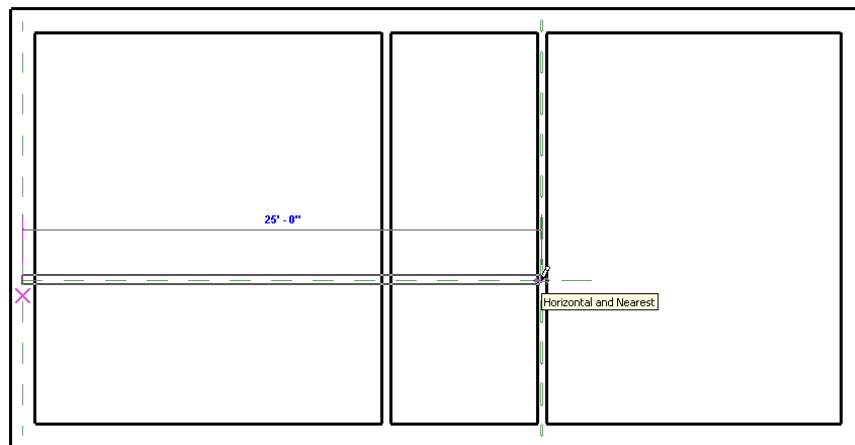

Figure 2-53 Sketching the third interior wall segment
5. Press SHIFT and move the cursor horizontally toward the right until it reaches the first vertical interior wall. When the **Horizontal and Nearest** object snap symbol appears, as shown in Figure 2-53, click to specify the location of endpoint of the third interior wall. The wall segment is created.